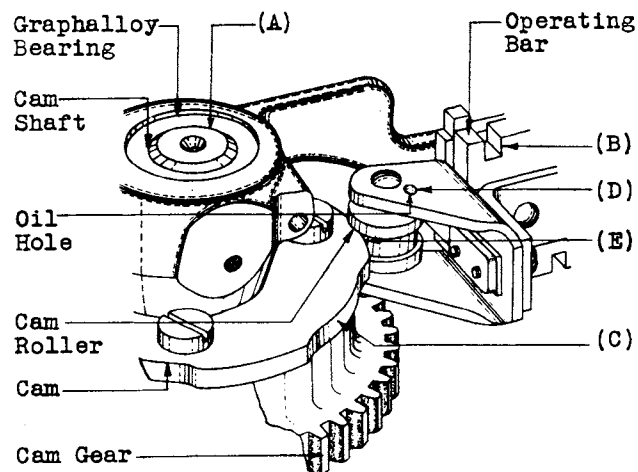

Fig. 3
- (a) - Figs. 3 (A) and (B) - The operating bar and the cam shaft shall be kept free from lubricants. The operating bar shall also be kept free from dust and dirt.
- (a) Gear Teeth and Cam Bearing Surface - Figs. 3 (C) and 4 (A) - The gear teeth and the cam bearing surface shall be adequately lubricated with Veedol medium cup grease.
- (b) Cam Roller Bearing - Fig. 3 (D) - The cam roller bearing shall be adequately lubricated with KS-6438 oil.
(c) After turnover, it is recommended that initially, the parts covered in (a) and (b) be lubricated at intervals of one month, with the exception of the cam roller bearings on interrupters equipped with flanged rollers as shown in Fig. 3 in which case the interval shall be once in three months. These intervals may be extended if periodic inspections have indicated that local conditions are such as to insure that these requirements will be met during the extended intervals.
2.04 Cam Roller Movement - Fig. 3 (E) - The cam roller shall be free from bind and must make at least a partial revolution when the operating bar moves through the operated position. Gauge by eye.
2.06 Counter-shaft and Cam Shaft Movement - Figs. 3 (A) and 4 (B) - The counter-shaft and the cam shaft shall not bind in their bearings. This shall be determined by feel and shall be considered as met if in checking for backlash between gears no bind is noticed.